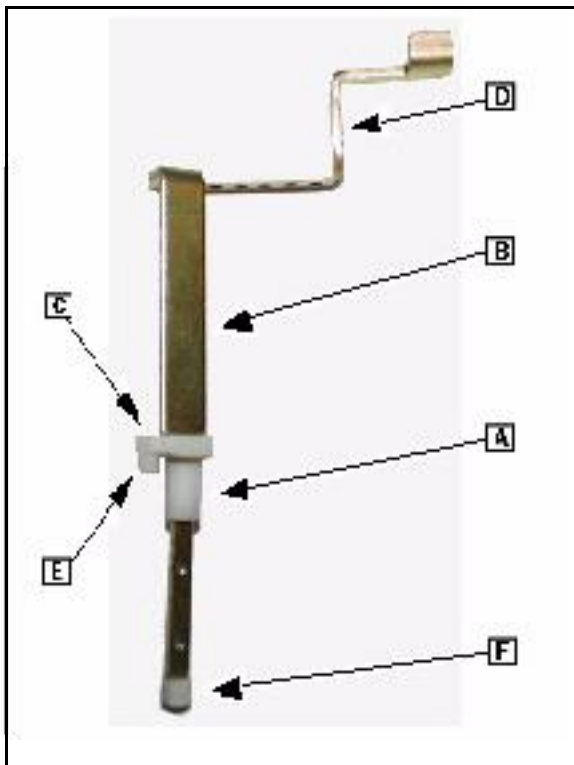
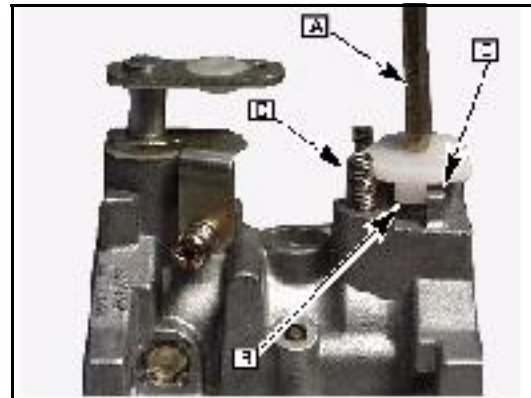

Fig. 38
Fig. 39
5. Place upper choke shaft bushing ([A] Fig. 39) on choke shaft ([B] Fig. 39) with the detents ([C] Fig. 39) facing away from the long choke lever arm ([D] Fig. 39) and the stop ([E] Fig. 38) facing the bottom of the shaft.
6. Place bottom bushing ([F] Fig. 38) on bottom of choke shaft.
7. Install choke shaft ([A] Fig. 39) into carburetor.
NOTE: Make sure the choke shaft retainer stop ([B] Fig. 39) is between the carburetor body stop ([C] Fig. 39) and the detent spring ([D] Fig. 39) in order to install the choke plate next.